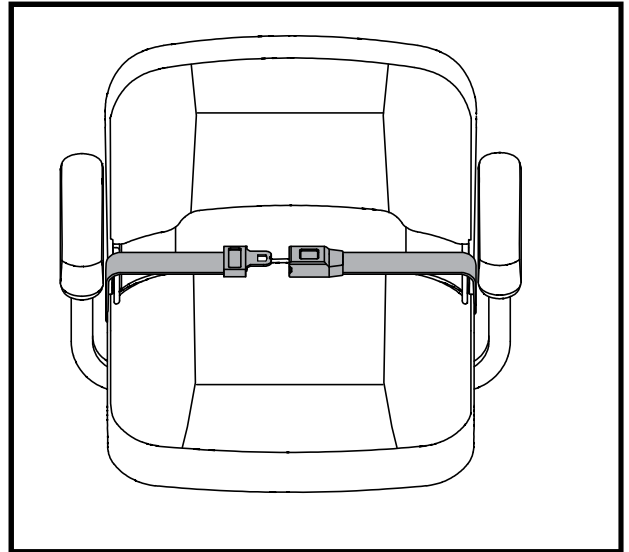

Figure 24. Positioning Belt
1. Insert the metal tab on the right side of the belt into the plastic housing on the opposite strap until you hear a “click.” **See figure 24.**